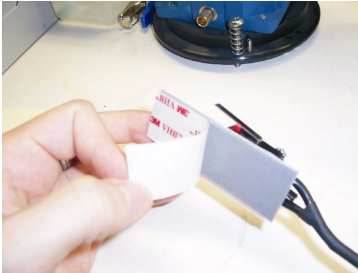

Figure 4 Remove backing from tape
1. Remove backing from adhesive foam tape (Figure 4).